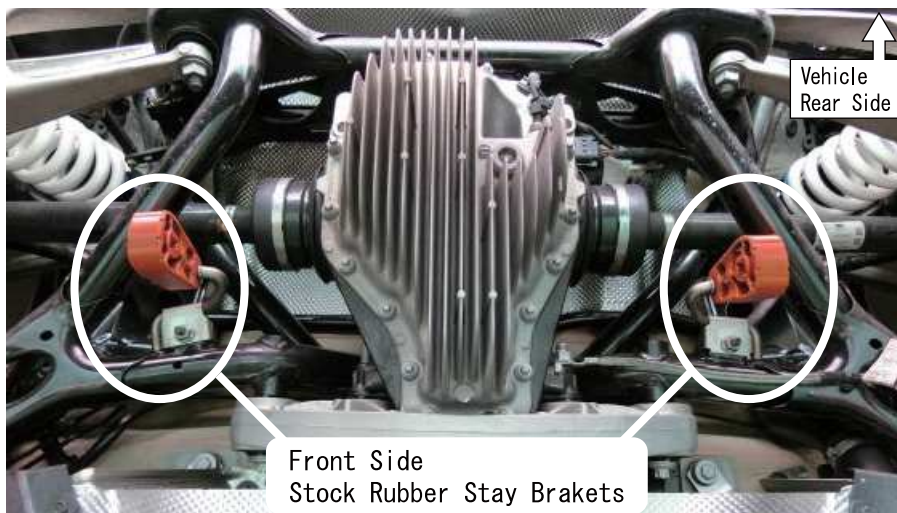

Fig. 6 Mounting points of front side stock rubber stay brackets
(1) Align the two stock rubber stay brackets on the front side with the former mounting points of the vehicle, and tentatively tighten the brackets using the stock nuts. (Refer to Fig. 6)